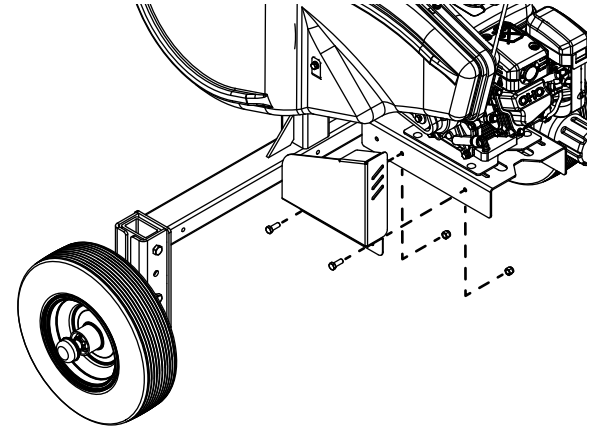

FIGURE 1
Preparing Log Splitter (Figure 1)
1. Attach the Tool Tray (1) and belt guard to the engine mount bracket using the hardware you removed in Figure 1 and two 5/16" washers (2).